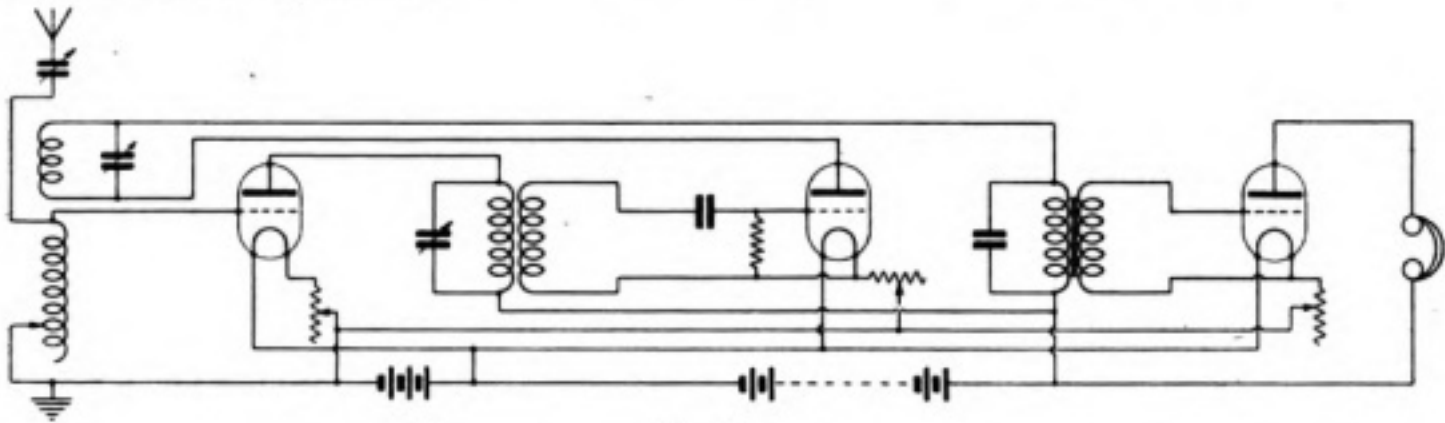

Fig. 8.
(1) If the spacing between the successive moving plates is $5/64$ ", and the gauge is No. 20 S.W.G., then ten will be required. From this information you can easily calculate the number required and your spacing washers will be of different dimensions. The thickness of air space in the particulars given above to the thickness that you propose to adopt is inversely proportional to the number of plates required. See Fig. 8. A.T.C., 0.001/0.0015 mfd.; reaction tuning condensers, 0.0004 mfd.; grid condenser, 0.0003 mfd.; the condenser that bridges the primary of the transformer, 0.001; H.T. condenser, 0.01/0.25 mfd. H.F. primary tuning condenser, 0.0003 mfd. maximum.